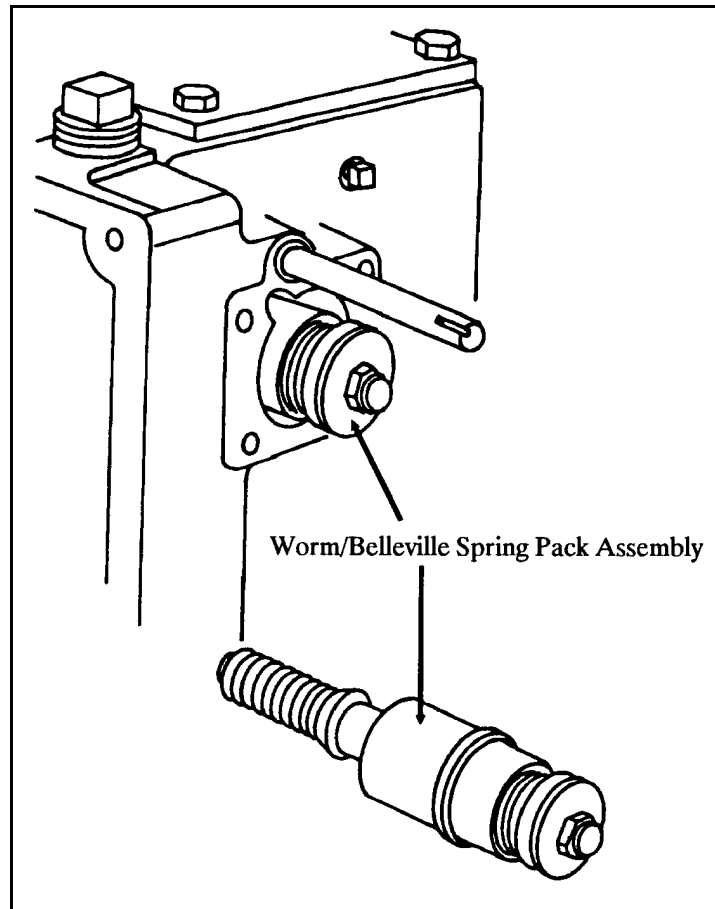

Figure 4-40 Worm/Belleville Spring Pack Installation
21. Worm and Belleville Spring Pack Assembly Installation Refer to Figure 4-40